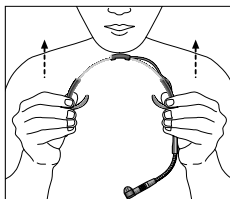

Fig. 3: Behind-the-neck headband.
2. Put the behind-the-neck headband on as shown in figs. 3 through 5.